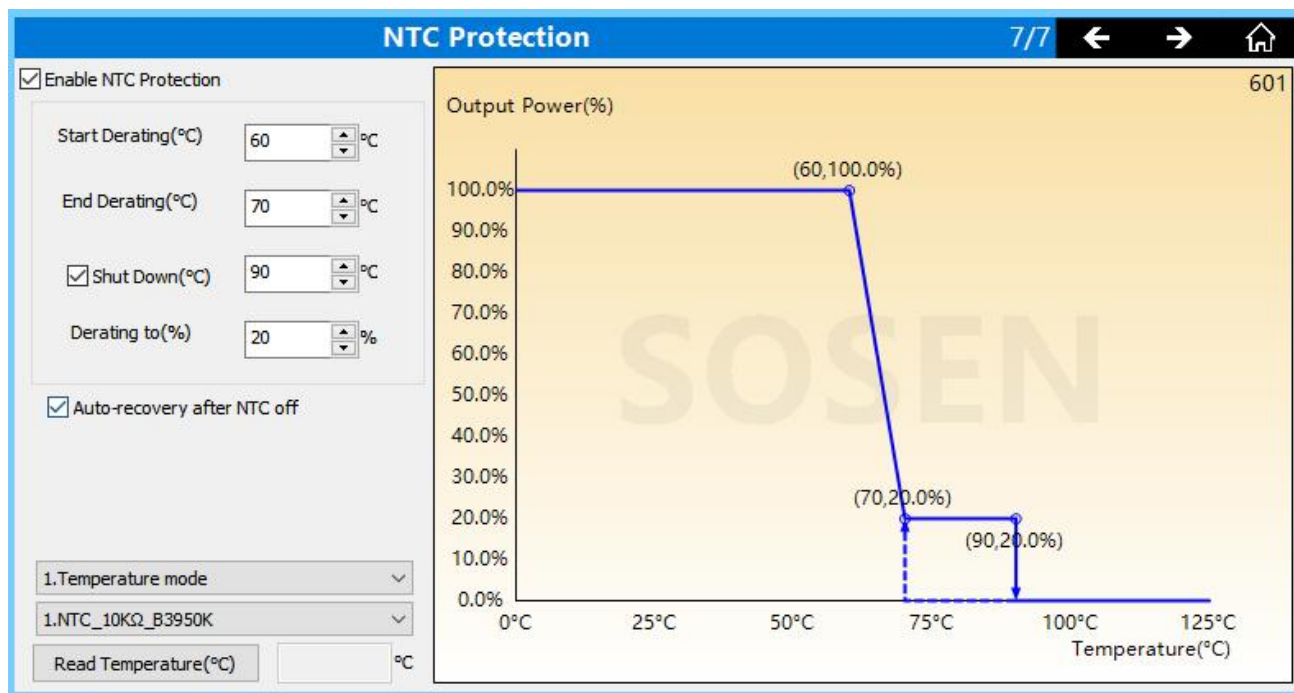
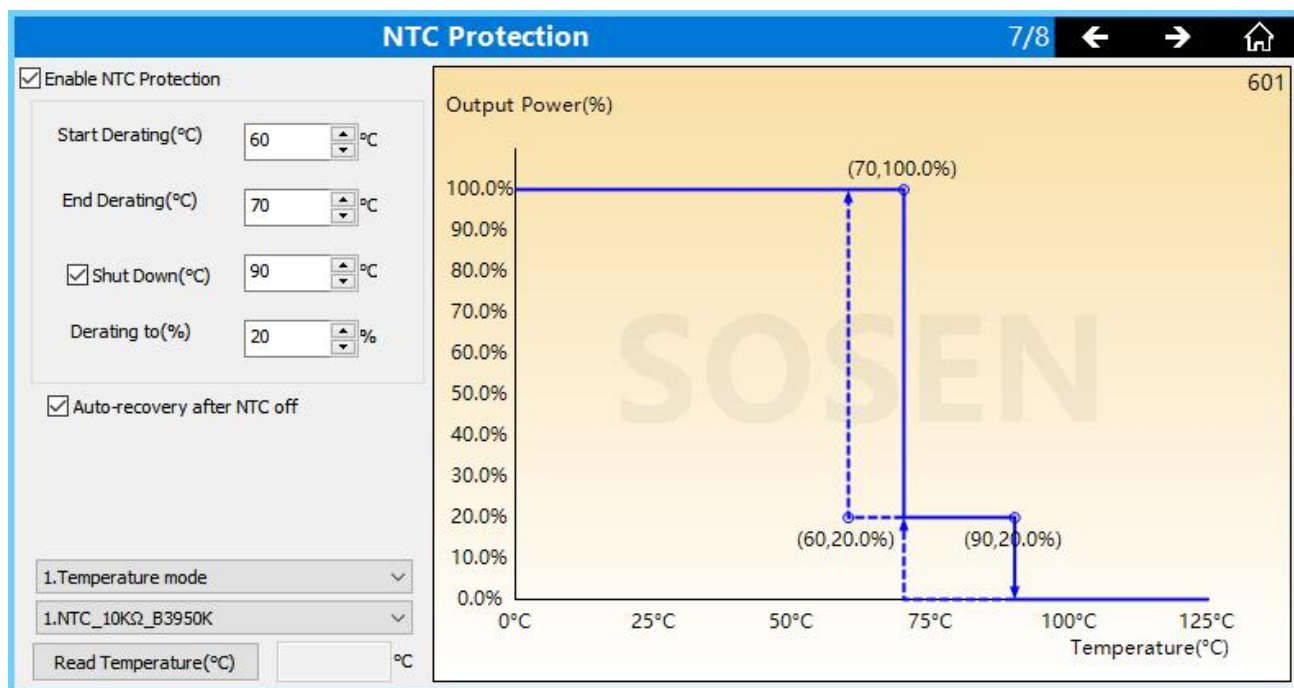

Figure 2
Figure 3
b.The NTC functions supported by the 3-in-1 model are shown in the functional interface shown in Figure 2 and Figure 3.This model supports two types of NTC logic, which can be selected on the Model Characteristics page.Models that support this feature include the 1200NP-M430BHN.
c. Running logic 1: According to "Model Characteristic Parameters" interface - "NTC running logic" option, select "Running logic 1", set the parameters as shown in Figure 2, as shown in the blue line, when the temperature is below 60°C, the output power is 100%; when the temperature is greater than 60°C and less than 70°C, the
d. Running logic 2: According to "Model Characteristic Parameters" interface - "NTC running logic" option, select "Running logic 2", set the parameters as shown in Figure 3, as shown in the blue line, when the temperature is lower than 70°C, the output power is 100%; when the temperature reaches or greater than 70°C, a derating event will be triggered, and the output power will be derated by 5% from the current actual level. As shown in the blue line, when the temperature is lower than 70°C, the output power is 100%; when the temperature reaches or is greater than 70°C, a derating event will be triggered, and the output power will be derated by 5% from the current actual level, for example, if the current output power level is 100%, then the output level will be derated to 95%, and if the temperature is still greater than or